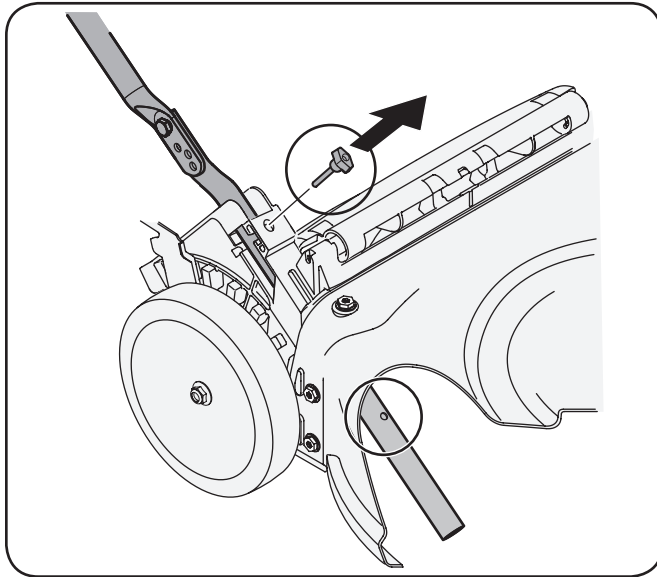
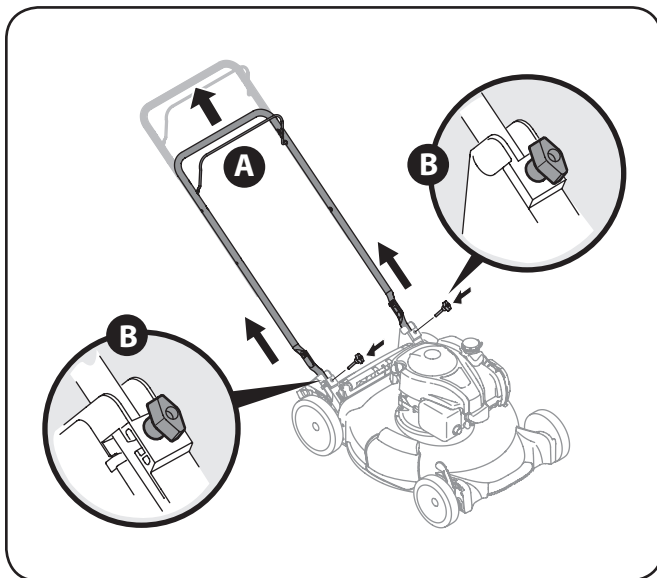

Figure 3-3
Figure 3-4
- Remove the T-bolts from the handle brackets as shown in Figure 3-3.
- Pull upward on the handle until holes in lower handle (shown in Figure 3-3 deck cutaway) line up with holes in handle bracket. See Figure 3-4.
- Insert the T-bolts removed earlier through the handle brackets and lower handle and tighten securely to secure the handle in place. See Figure 3-4.